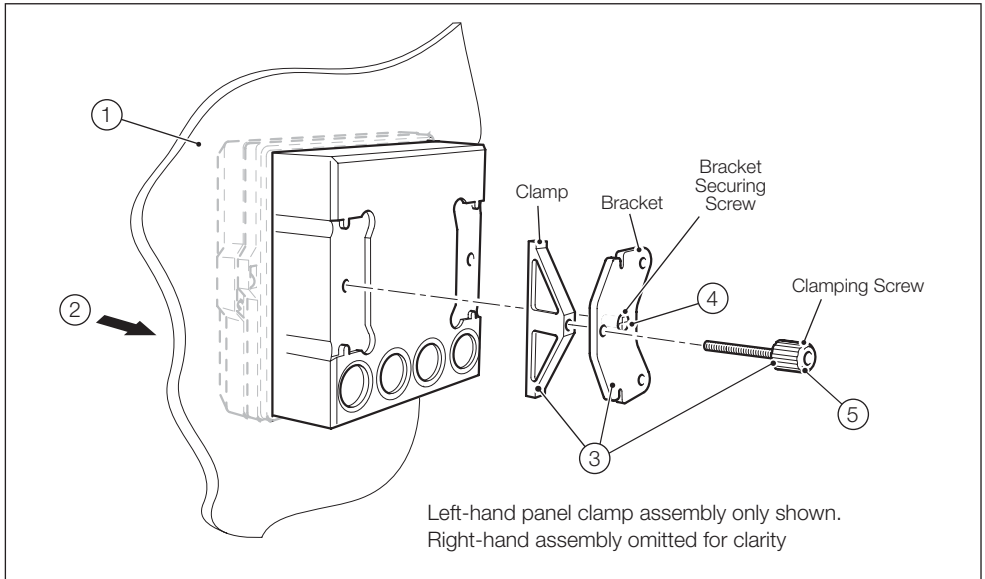

Fig. 2.4 Installing the Instrument – Panel-Mounting
2.2.1 Panel-Mounting – Fig. 2.4
Referring to Fig. 2.4, secure the instrument in a panel as follows: